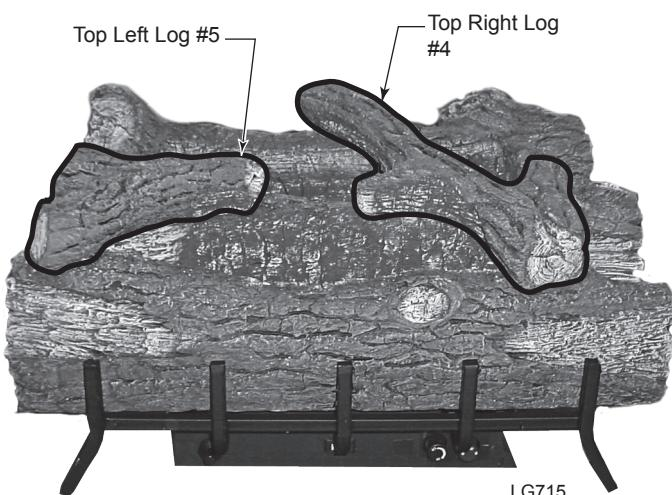

Figure 27 -
4. Place Top Right Log (#4) in bottom log cutouts. *Figure 27*